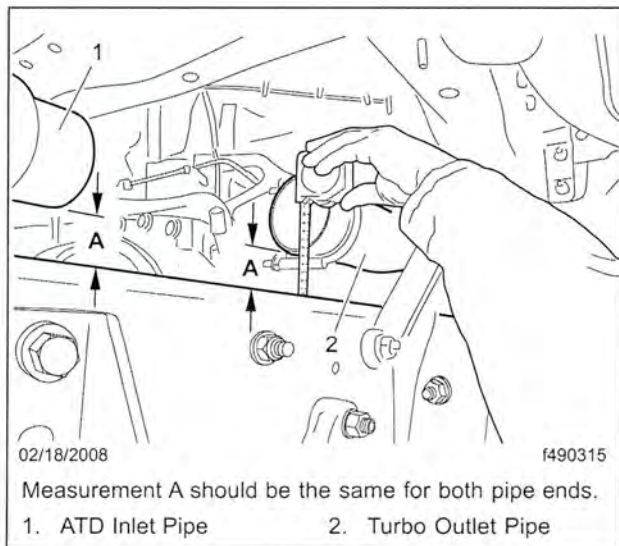

Fig. 1, Vertical Measurement
- 3.3 Measure the vertical distance between the pipe ends and the frame rail. See **Fig. 1**. This measurement must be the same for both pipe ends.